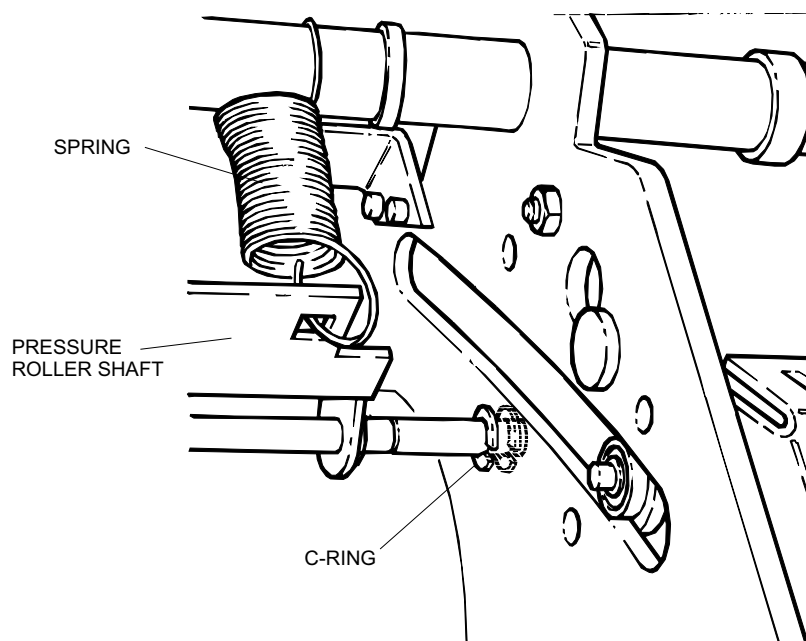

figure 2-27
7. Take out C-RINGS at both PRESSURE ROLLER SHAFTS and slide SHAFTS outwards. See figure 2-27 on the next page.